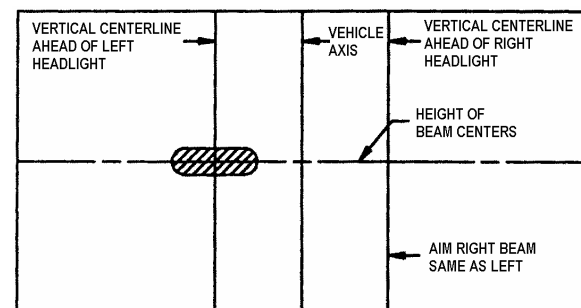

FIGURE 27: HIGH-INTENSITY ZONE (SHADED AREA) OF A PROPERLY AIMED UPPER BEAM ON THE AIMING SCREEN 7.6 M (25FT) IN FRONT OF VEHICLE 06503
6. Low beam headlights are aimed so that the top edge (the cutoff) of the high-intensity zone is at the vertical location as per Table 1 and the left edge of the high-intensity zone is at the vertical centerline of the headlight (Fig. 27).